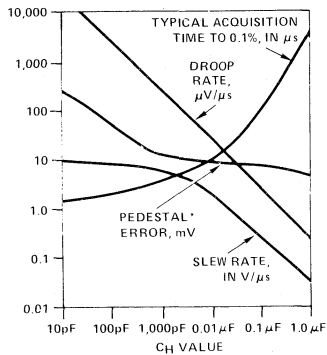
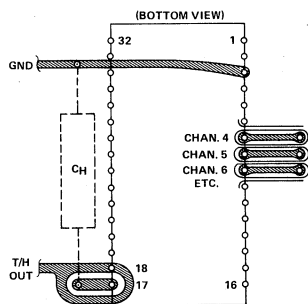

FIGURE 3
FIGURE 5
When a multiplexer is continuously cycled from channel to channel, two other forms of crosstalk arise. These are dynamic crosstalk and adjacent* channel crosstalk, which are both minimized along with static crosstalk by careful attention to circuit board layout. A strip of ground plane should separate conductors for adjacent channels on a printed circuit board. See Fig. 5. Make these traces (and the conductors) short, and as narrow as practical for maximum separation.
- B. The holding capacitor C_H is the only essential external component required for operation of the HI-5901. The value selected determines droop rate, offset error and acquisition time according to curves shown in Fig. 3. Board layout should include a guard ring to prevent voltage-driven leakage at the capacitor terminal. See Fig. 5.